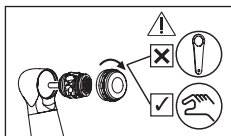

Fig. 33
- 7 Insert the new cartridge into the head. Attach and tighten the head cap by hand (Fig. 33).